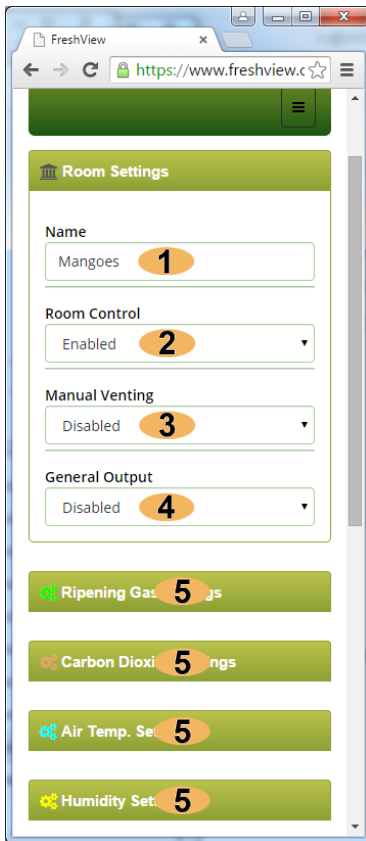

Figure 71: Mobile friendly edit room web page, room settings.
- 1 **View Mobile Version:** Displays the mobile friendly version of this page, see Figure 71: Mobile friendly edit room web page, room settings.